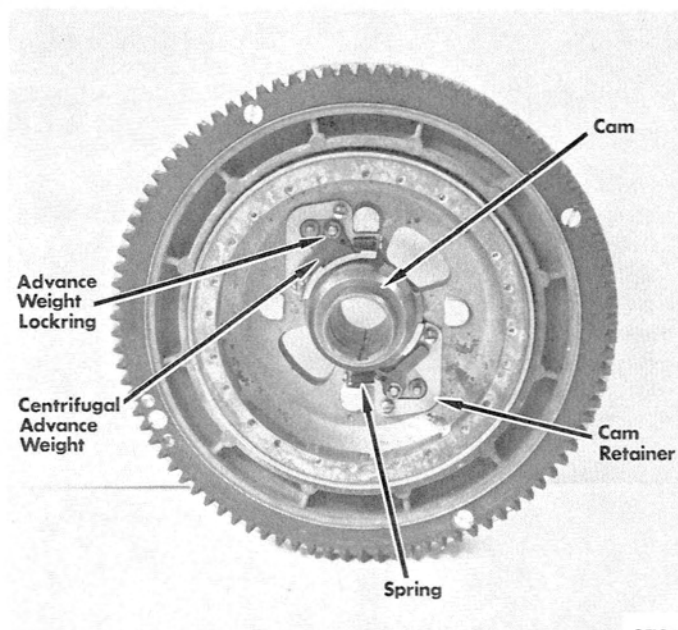

Figure 3. Spark Advance Mechanism
2. Remove screws and remove cam retainer. (Figure 3)
2. Install counterweights and secure with lockrings. (Figure 3)